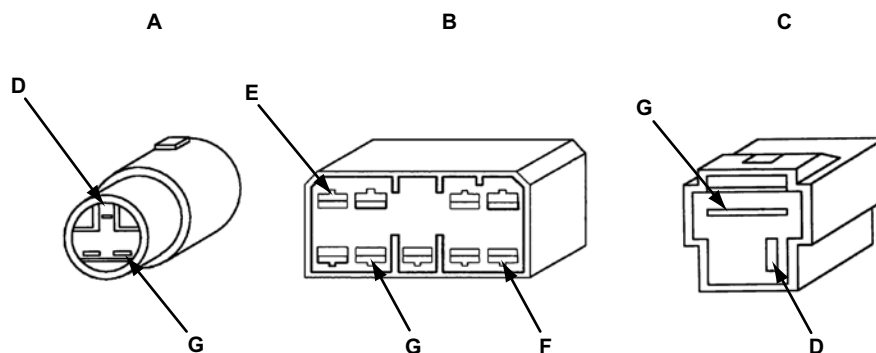

Figure 13-2 Diagnostic connectors for most 1987 and earlier vehicles
- Use Figure 13-2 and Table 13-2 on page 145 to locate and connect to the diagnostic connector for most 1987 and earlier models.